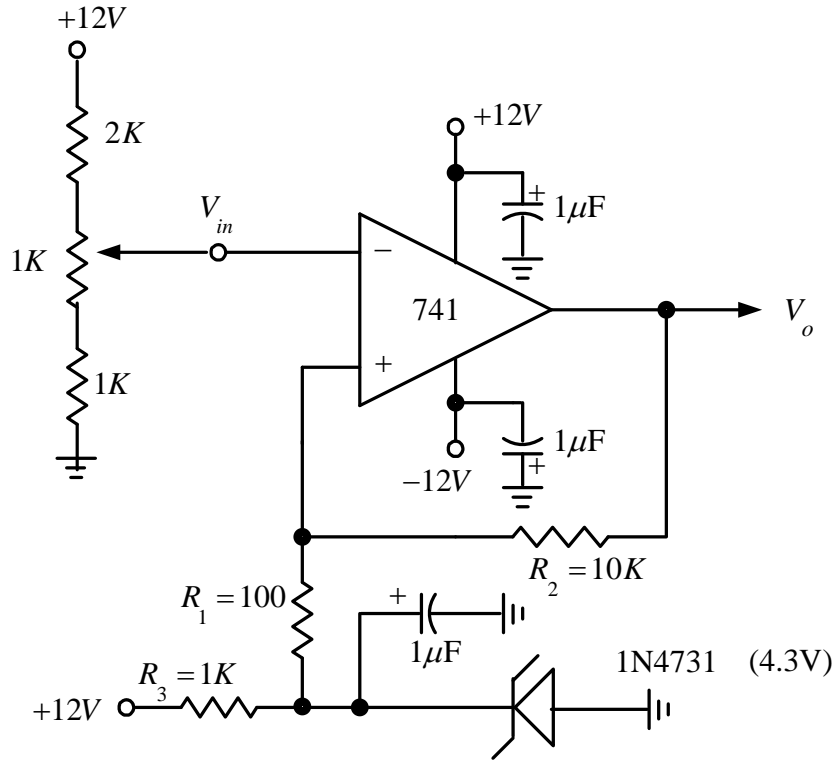

Fig. 5. Inverting Schmitt Trigger Test Circuit.
4. With the power off, construct the Schmitt trigger circuit of Fig. 5. Use the input pot as you did in Step 3 while monitoring the output. You should see clean switching unless you have a worn pot with discontinuous spots across its range.